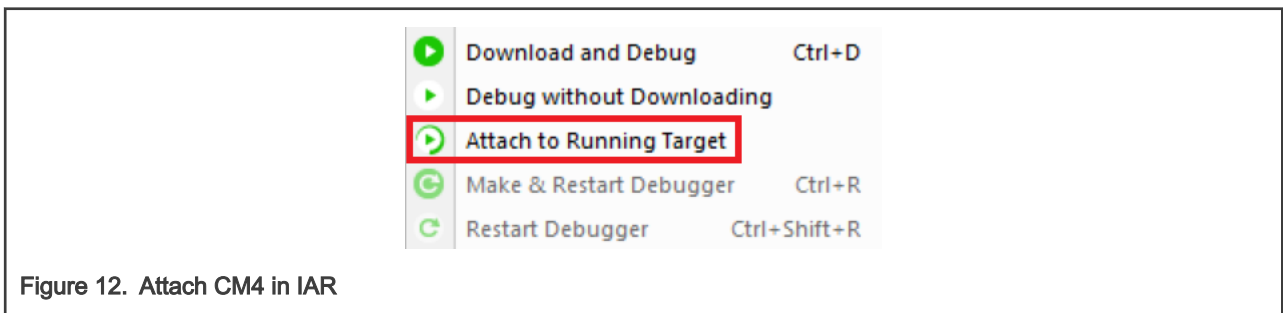

Figure 12. Attach CM4 in IAR
4. Attach CM4 project, as shown in Figure 12.